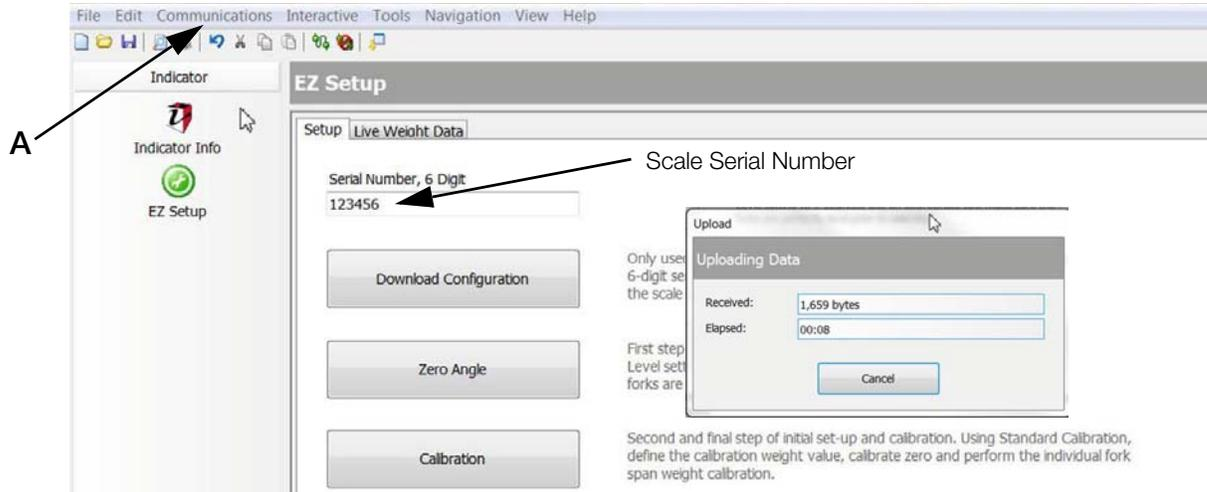

Figure 4-18. Setup Screen
1. For initial use with each scale, go to Communication/Upload Configuration (Fig 4-18 A). A pop-up appears indicating it is uploading data (Fig 4-18).